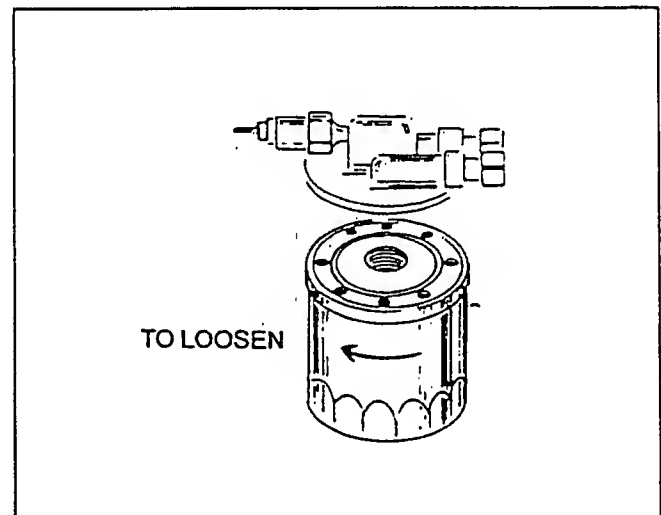

Figure 9 — Replacing Engine Oil Filter
- Turn oil filter counterclockwise to remove (Figure 9).